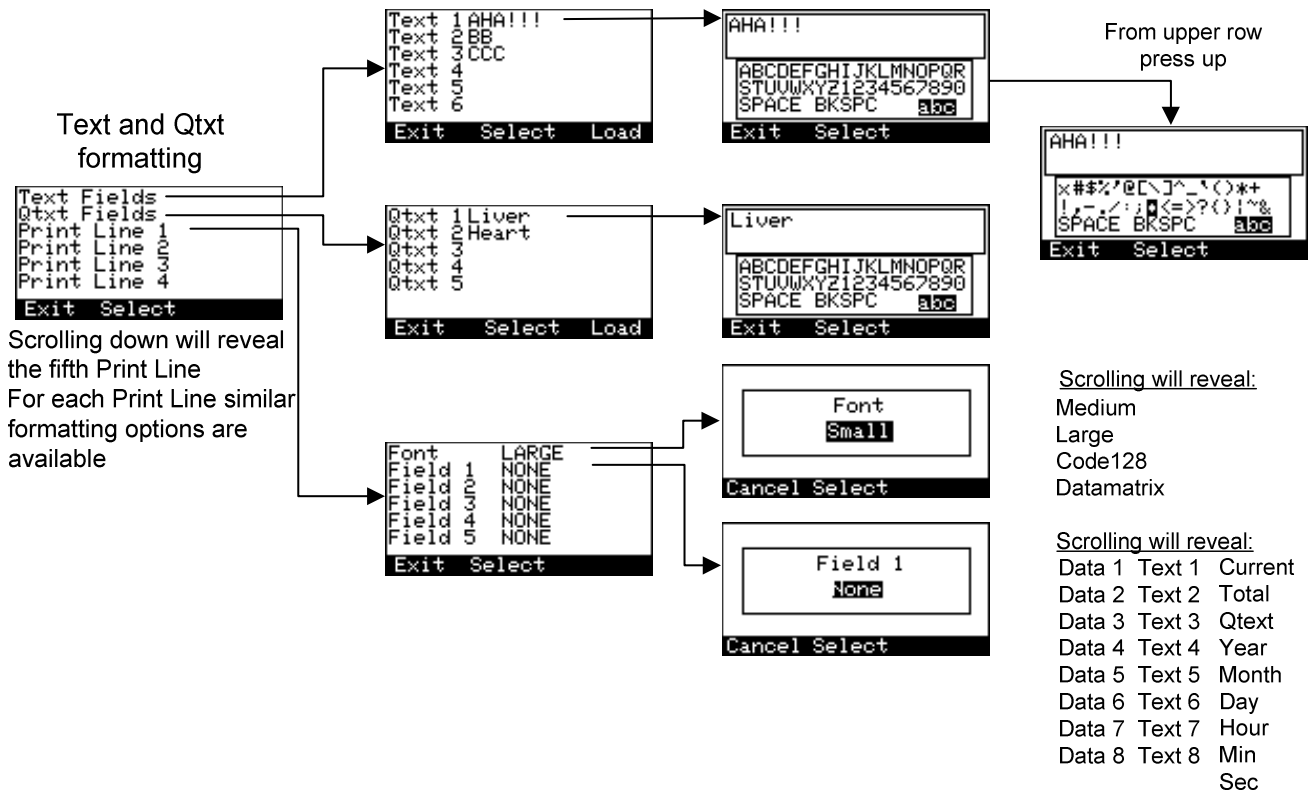

Figure 15 - Print Image Settings with Print line formatting
- Notice that a punctuation screen is available by pressing the **5-way navigation** button, see **Figure 15**. Move cursor to upper or lower row and press up or down respectively. In the same manner you return to text screen from the punctuation screen.
Text fields on the other hand store the information until deleted, edited or overwritten. To enter information in **Text Fields** go to **Print Img Settings/Text Fields/Text1** and use the screen keyboard input shown in **Figure 15** to enter text. See the example in the next section where the information is entered via a keyboard, but a scanner could be used as well.